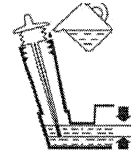

Figure 10
3. The oil level shall be between the marks "HIGH" and "LOW". See Figure 10.
4. If necessary fill with oil up to the FULL mark .See Figure 10.